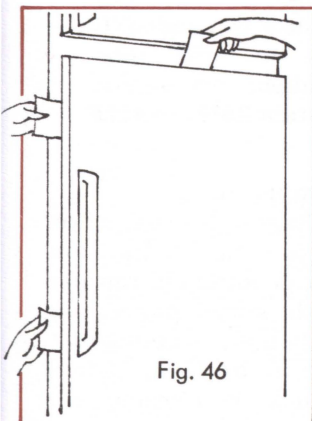

Fig. 46
3. Cause: Door leaking air. Test by closing the door on a dollar bill or a piece of paper of the same thickness. Fig. 46. If you can pull the paper out easily, there is a poor fit at this point. Test at several points around the door.